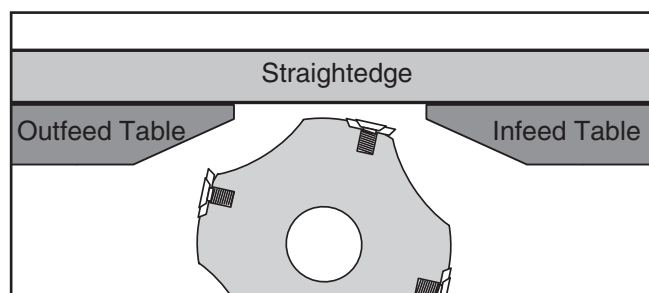

Figure 59. Infeed and outfeed tables set evenly.
10. Place straightedge halfway across infeed and outfeed table, and adjust infeed table even with outfeed table, as shown in **Figure 59**.